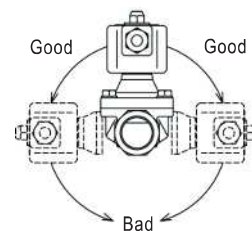

Fig.3: Elevated piping at secondary side
4. Back flow may occur when the secondary pressure is larger than the primary pressure. To prevent back flow, install check valve on the secondary side (see Fig. 3).